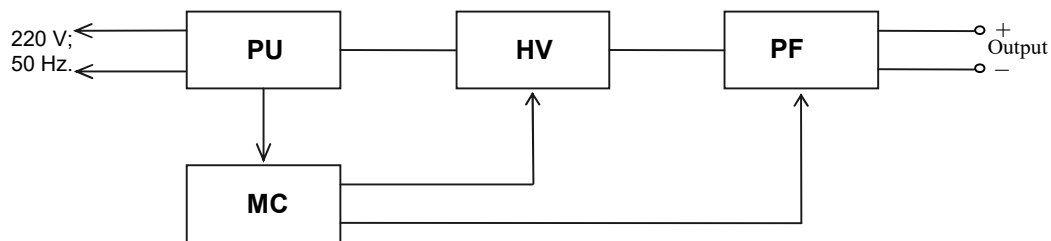

Fig. 1 The functional chart of the test generator IGS 1.2
4.1 The functional chart of the test generator IGS 1.2 is shown in **Figure 1**.